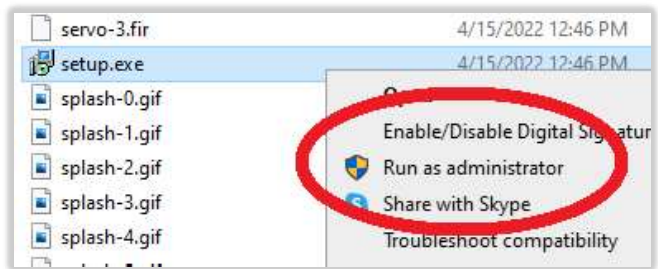

Figure 26
8. In the unzipped folder, right click on the *setup.exe* file and choose *Run as Administrator*. Then follow the on-screen instructions to install the software. *Figure 26*